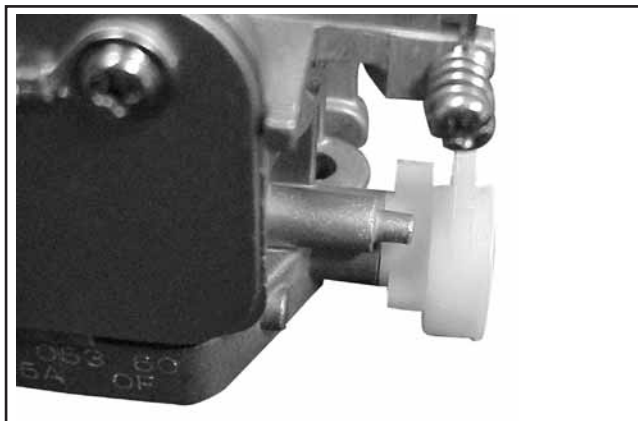

Figure 5-29. Assembling Choke Lever.
7. Insert the new bushing through the new choke lever from the outside, and start the bushing in the outer shaft bore. Position the choke lever so that the protruding boss on the carburetor housing is between the two stops formed in the choke lever. See Figure 5-29.